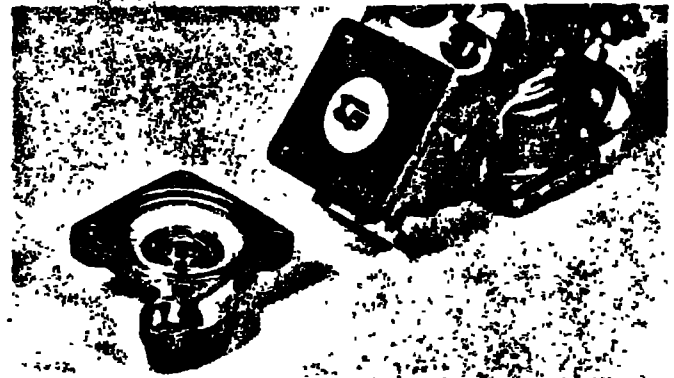
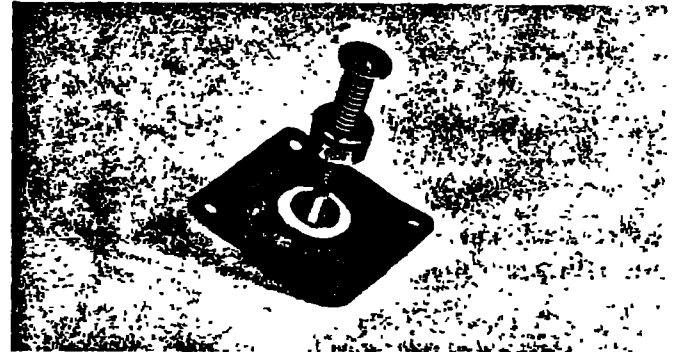
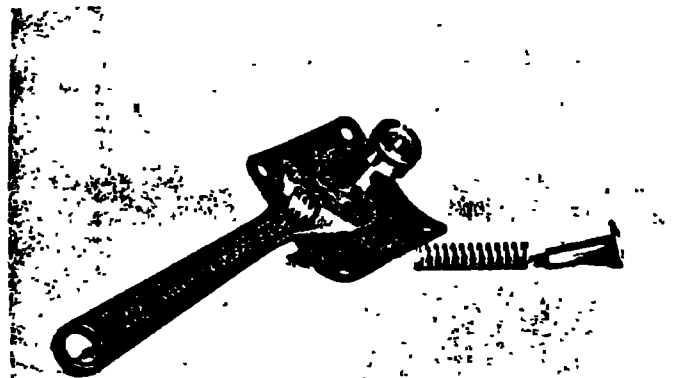

Figure 6
Figure 7
Figure 8
2. Remove the cover. The stainless steel adapter, with "O" rings attached, will be free to be removed simultaneous with the removal of the cover. Figure 6. Pull out the relief valve assembly. Figure 6. Note: the spring tension in the relief valve assembly is contained in the design of the relief valve; therefore, the relief valve can be removed in a one-piece spool-type assembly. Figure 7.
4. To disassemble the relief valve module, (Figure 7) hold the center hexagonal stem with an open end or an adjustable wrench (Figure 8). While simultaneously turning the hex head on the end of the relief valve assembly. The relief valve spring will unload during disassembly. Repeat procedure turning hex nut on the diaphragm end. Figure 9 shows complete disassembly of module.